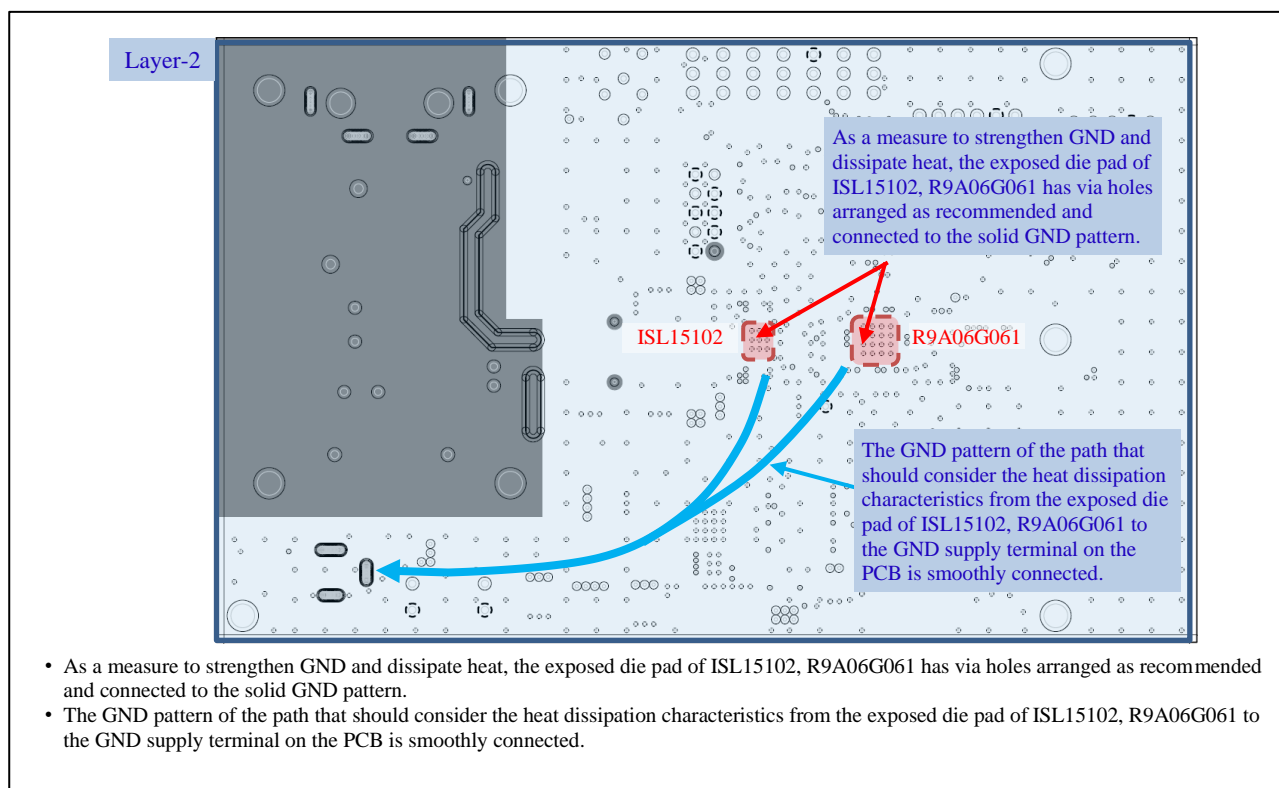

Figure 2-13 Example of connection between exposed die pad of R9A06G061 and ISL15102 and GND pattern (2nd Layer)
- In the GND layer of the 2nd layer, connect the path to the GND supply terminal on the PCB smoothly with the Exposed die pad of R9A06G061 and ISL15102. (An example is shown in Figure 2-13.)